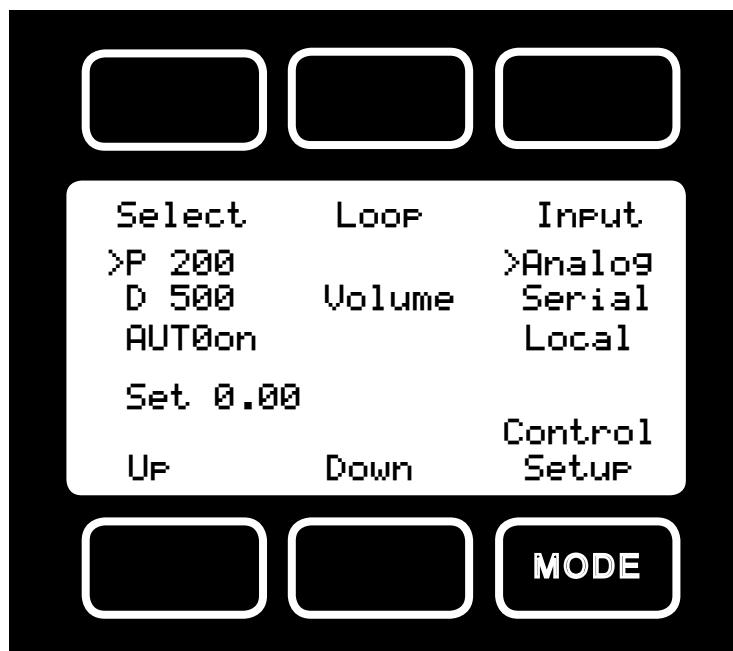

Figure 13. VC Series Control Setup Display
**Input** – VC Series Flow Controllers normally ship defaulted to analog control as indicated in Figure 13 above. To change how the set-point will be conveyed to the controller push the button in the upper right hand corner just above the dynamic label “Input” until the arrow is directly in front of the desired option. The controller will ignore any set-point except that of the selected input and it will remember which input is selected even if the power is disconnected.